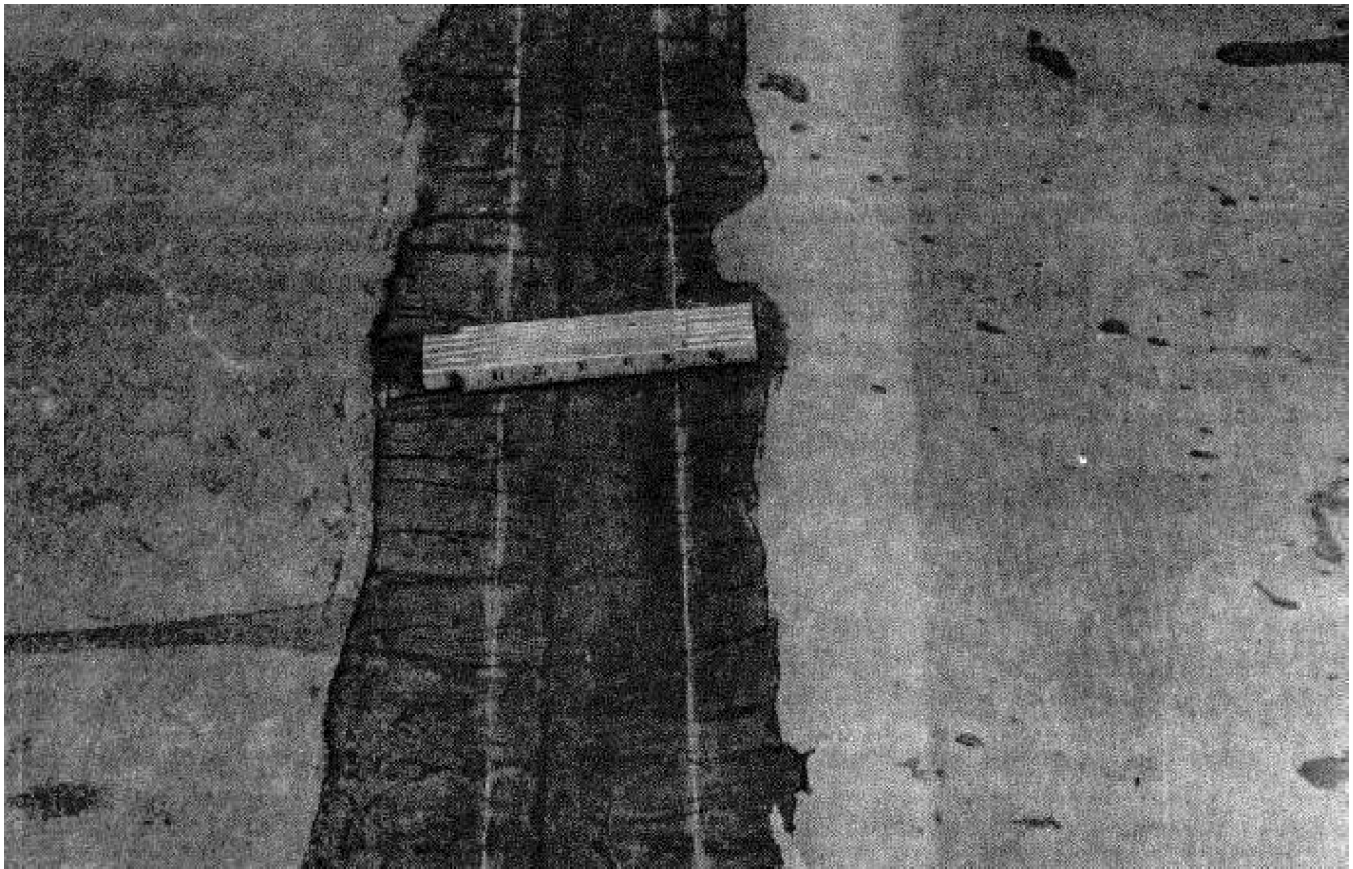

Figure 36. Closeup view — repaired roll roofing seam.
**6.6.4.2 For an Expected use of More than 1 Year.** Permanent repairs to leaky seams of roll roofing roofs are best effected by using a membrane such as asphalt saturated woven cotton fabric (ASTM Specification D173), woven glass fabric (Federal Specification SS-R-620), or light weight, smooth-surfaced roll roofing (ASTM Specification D224), cemented over the seam and coated with a bituminous compound conforming to Federal Specification SS-A-694 (fig. 36). Apply the coating to the seams in strips approximately 6 inches wide using approximately one gallon per 80 lineal feet of seam. Embed a 4-inch strip of saturated fabric in the coating, pressing it firmly into the coating until it lies flat without wrinkles or buckles; the center of the fabric must be directly over the exposed edge of the roofing. Then apply another coat of coating directly over the strip of saturated fabric so the fabric is completely covered and the first and second coatings are continuous. The seams must be maintained by recoating with the same material every 2 or 3 years.